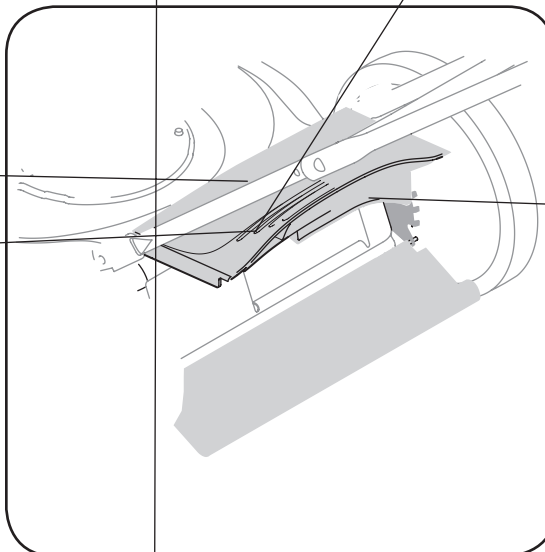

Figure 5-3: Remove rear flap.
1. To remove rear flap, lift rear door, and press flap in on either side to remove from hole. See Figure 5-3.